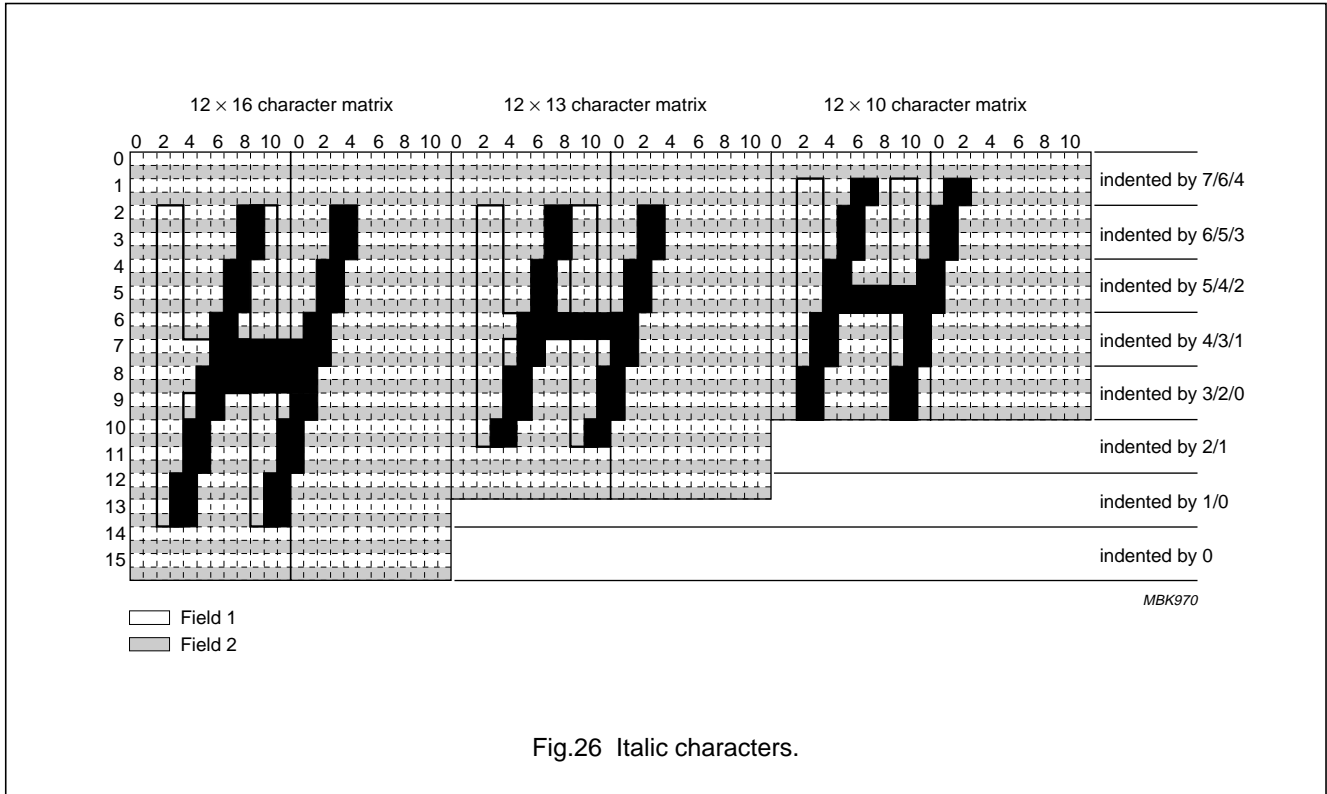

Fig.26 Italic characters.
**CC:** This attribute is valid from the time set until the end of a row of a display window, or otherwise modified. The attribute causes the character foreground pixels to be offset horizontally by 1 pixel per 4 scan lines (interlaced mode). The base is the bottom left character matrix pixel. The pattern of the character is indented, as shown in Fig.26.